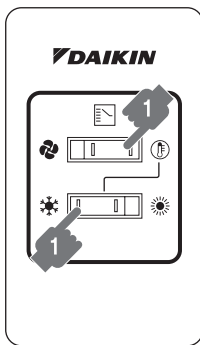

figure 7.1
- “❄️” “☀️” Cooling operation (Refer to figure 7.1)